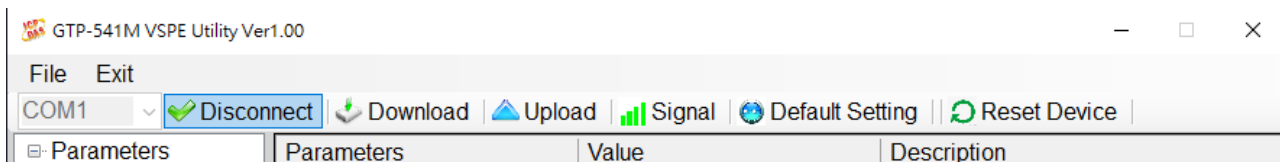

Figure 10.8.2.3
3. Click **System** to set the following parameters, as shown in Figure 10.8.2.4